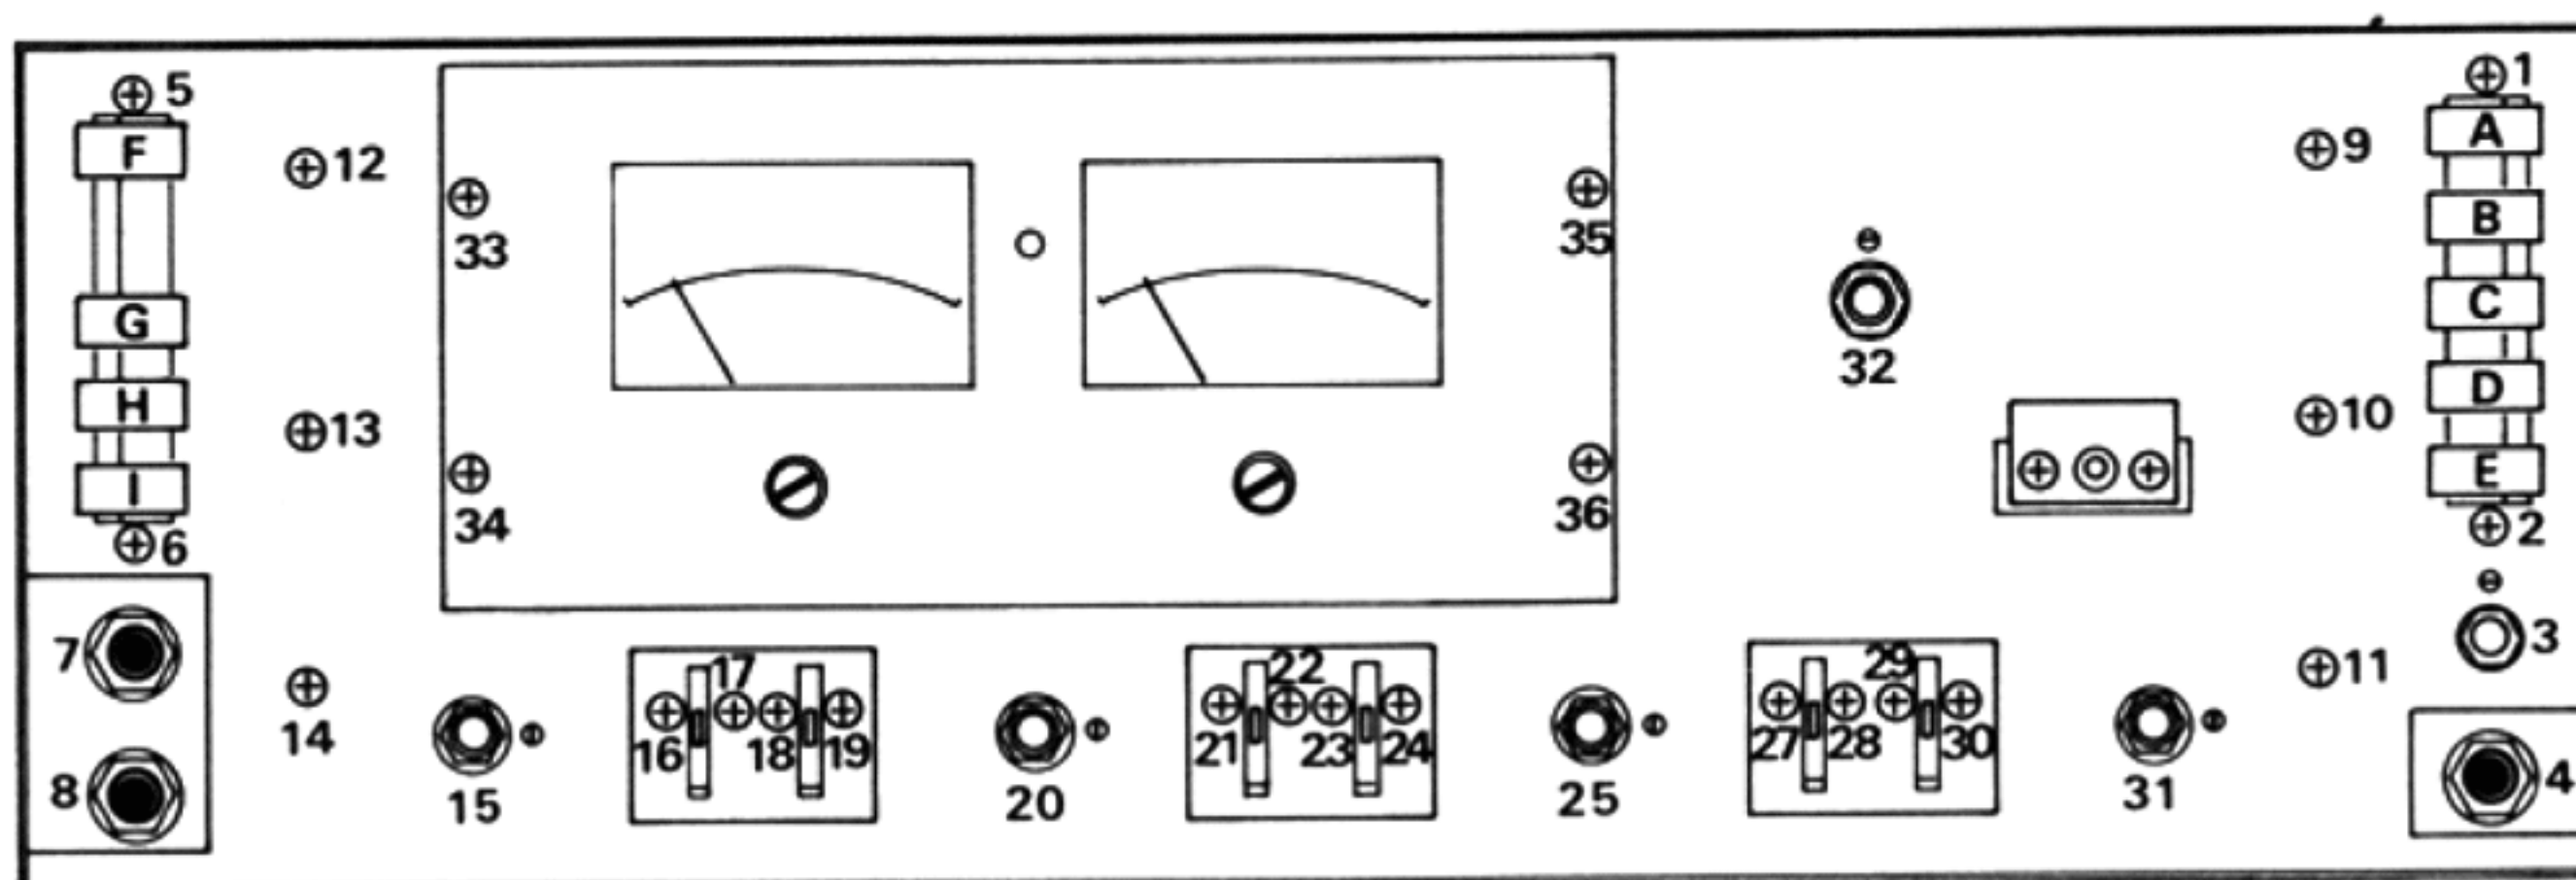

Fig. 1-4 FRONT CHASSIS
- Remove the 5 function knobs (Fig. 1-4, knobs A-E).
- Unscrew the 2 function switch mounting screws (Fig. 1-4, screws 1 and 2).
- Remove the 2 mounting nuts on MIC JACK and MIC VOL., respectively. (Fig. 1-4, nuts 3 and 4).
- Remove the 4 knobs for power switch and speaker switch (Fig. 1-4, knobs F-1), and 2 switch mounting screws (Fig. 1-4, screws 5 and 6).
- Unscrew the 2 headphone jack mounting screws (Fig. 1-4, screws 7 and 8).
- a) After completing procedures 1 to 3, unscrew the 4 meter decoration board mounting screws (Fig. 1-4, screws 33-36).
- a) After completing procedures 1 to 3, remove the 9 knobs for FUNCTION POWER AND SPEAKER (Fig. 1-4, knobs A-1), and the 4 switch mounting screws (Fig. 1-4, screws 1, 2, 5, and 6).
- b) Remove the 4 mounting nuts for MIC VOL., MIC JACK and PHONE JACK. (Fig. 1-4, nuts 3, 4, 7 and 8).
- d) Remove mounting screws and nuts for all controls on the front chassis (Fig. 1-4, screws, nuts 15-32) 12 screws and 5 nuts), and detach Tone Control Amp. PCB from front chassis.
- a) After completing procedures 1 and 2, unscrew the 2 left side panel mounting screws. (Fig. 1-4, screws 9 and 10).